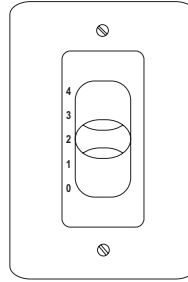

Figure 10
- 2. Check the operation of the fan by sliding the bar of the control through the four positions marked 1 - 4 ("0" position is OFF) (Figure 10).